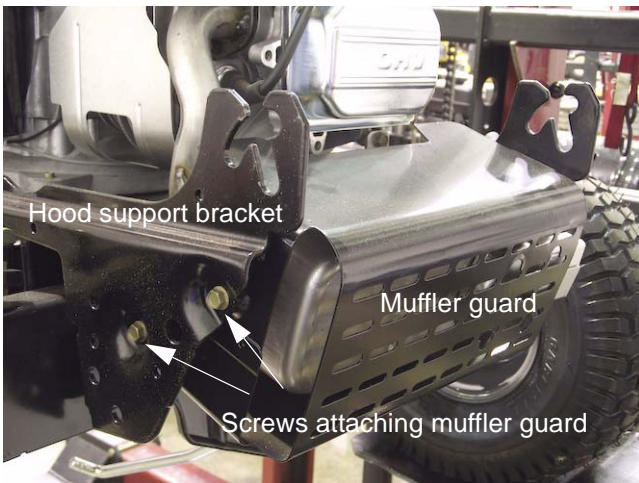

Figure 2.1
2. Remove the two screws on each side of the frame that secure the muffler guard to the hood support bracket. See Figure 2.1.